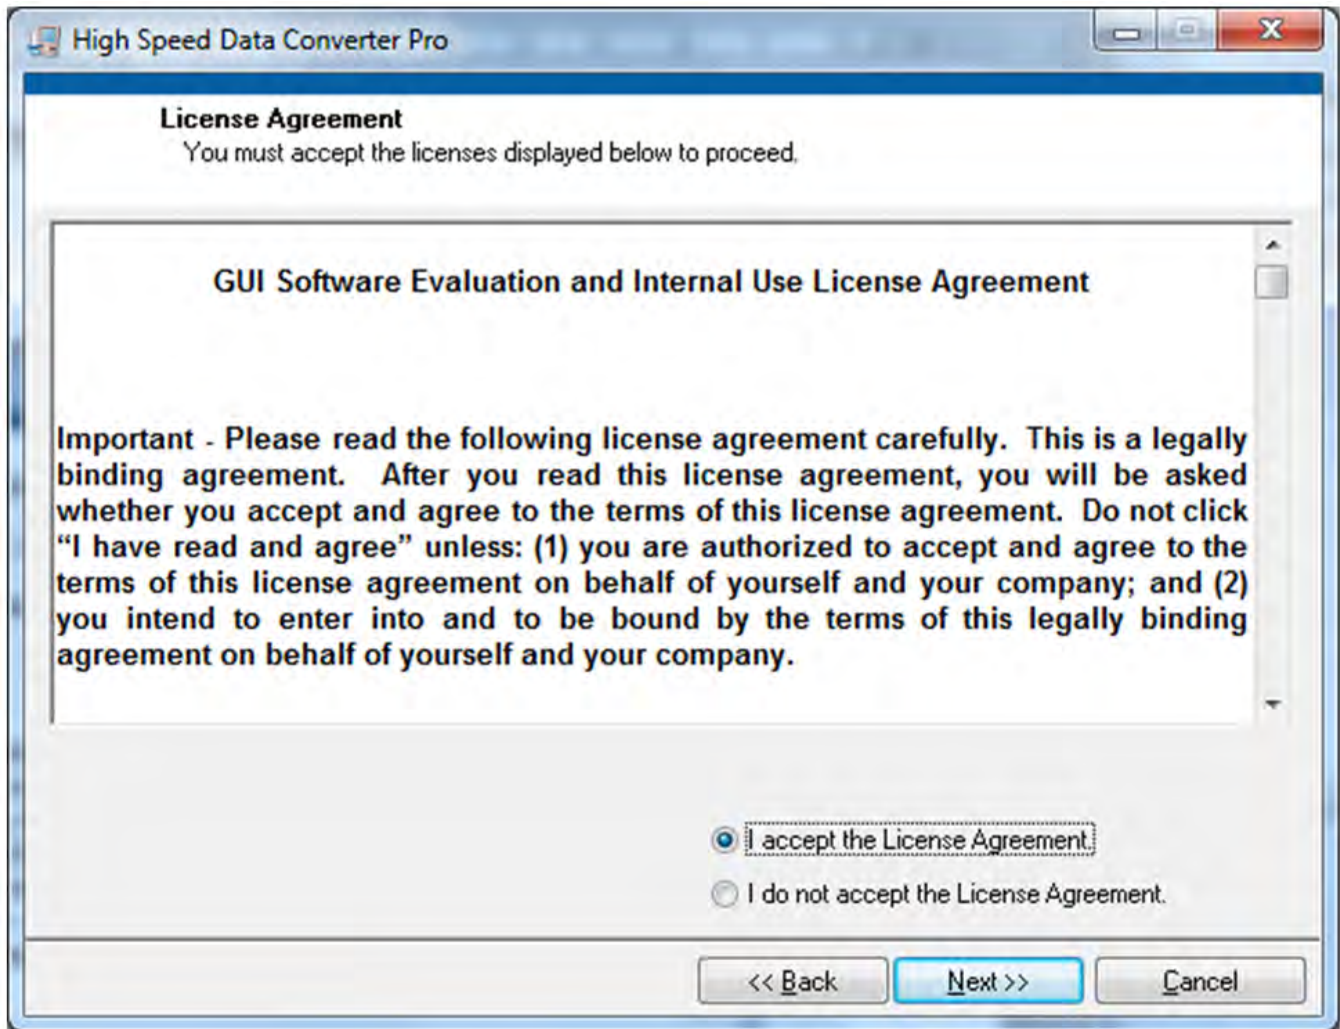

Figure 33. HSDCPro Install (TI License Agreement)
- Read the License Agreement from Texas Instruments and select *I accept the License Agreement* and press the *Next* button as shown in Figure 33.